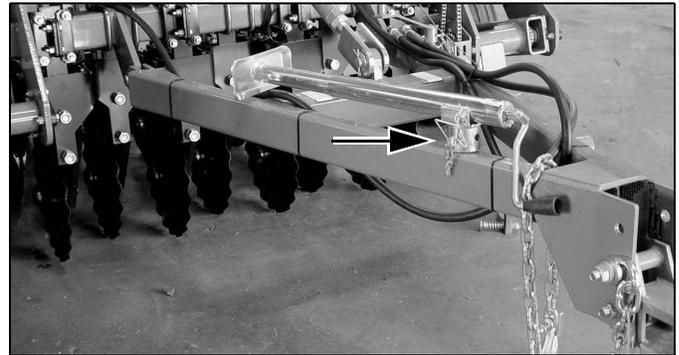
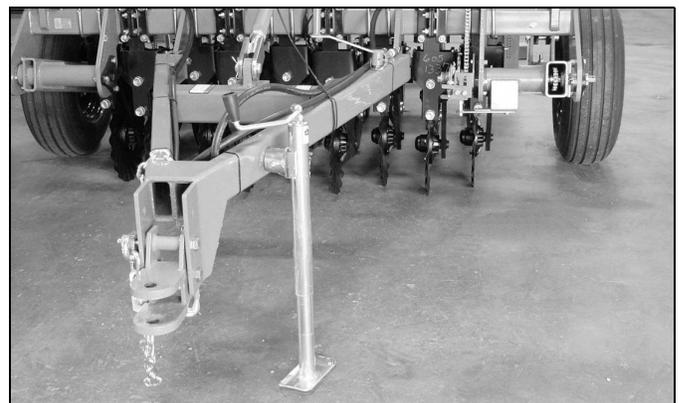

Figure 22
Figure 23
### *Refer to Figure 22 and Figure 23*
4. Move jack to side stob near hitch. Re-pin as shown in Figure 23. If ground is soft, place a board or plate under jack.